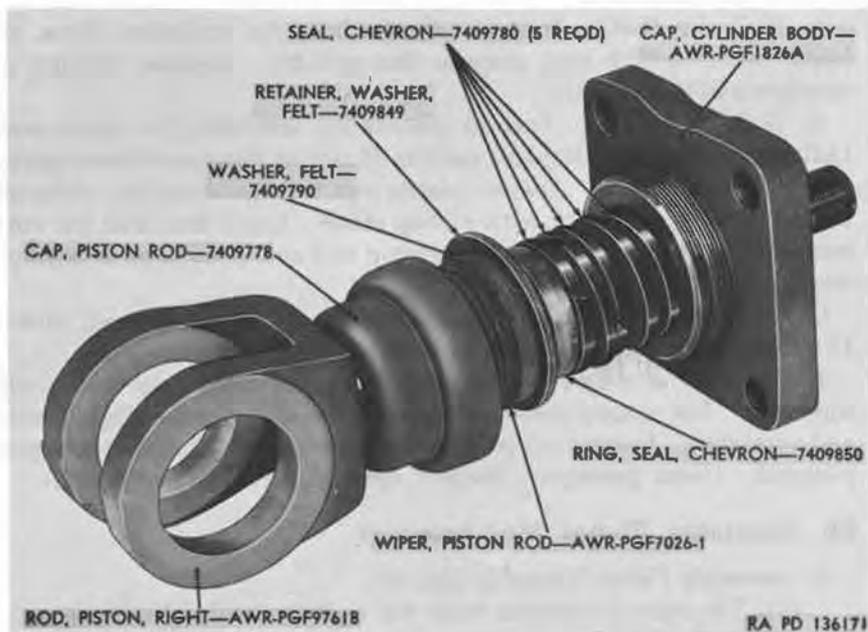

Figure 19. Piston rod and cylinder body cap assembly.
- (4) Remove piston rod cap (Z), piston rod wiper (X), felt washer (W), felt washer retainer (V), chevron seal ring (U), and five chevron seals (T) from cylinder body cap (fig. 19).
- (5) Use suitable adapter and press pivot pin bushings (N) from right cylinder body (M).
- (6) Follow same procedure for disassembling left cylinder assembly.